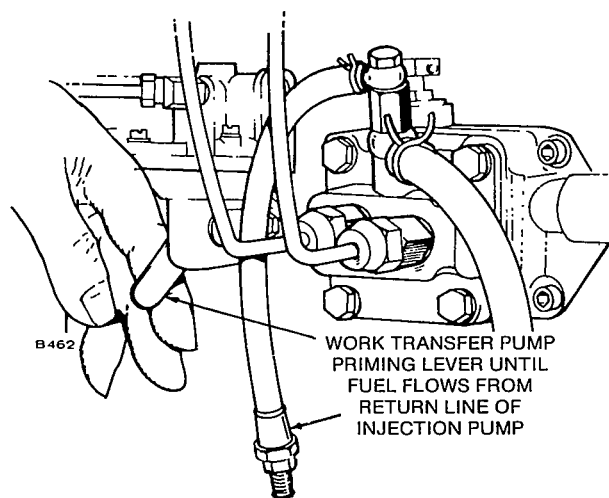

FIGURE 21b. BLEEDING FUEL SYSTEM
2. Operate hand priming lever on diaphragm type fuel transfer pump until there are no air bubbles in fuel flowing from the fuel return line, Figure 21b.